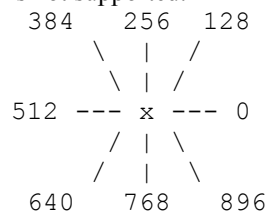

Figure 10. Compass directions are measured in degrees from East.
Channel 2: Current compass heading of the robot. The compass system is oriented so that due East (right) is 0V, 1.25V (256) is North, 2.5V (512) is West, 3.75V (768) is South. Just below due East is 5V (1023). See Figure 10.